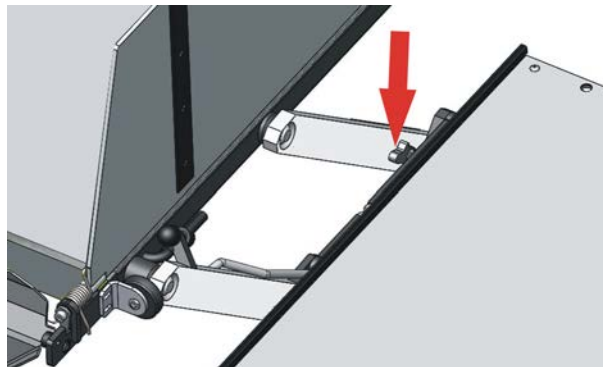

Figure 51: Adjusting the Switching Cam for the Retract Position (2)
- ⇒ Adjust the switching cam by hitting it lightly with a hammer from above (see Figure 51). In order to prevent damage to the switching cam, place a protective block (e.g. of wood or aluminium) between the hammer and switching cam.